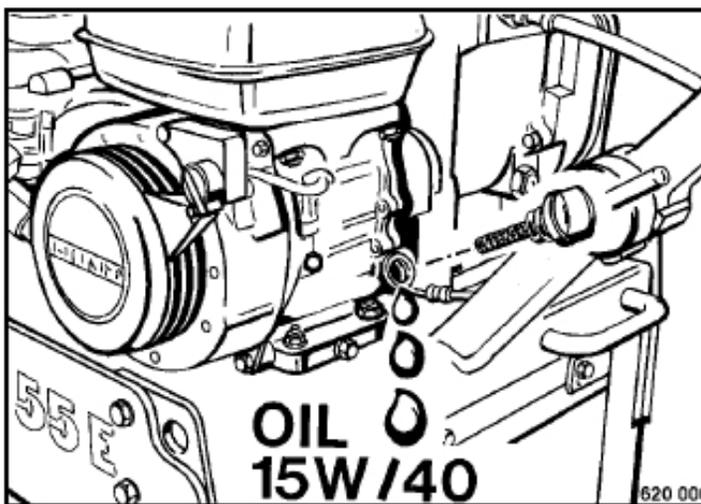

Fig. 28
- 1 Unscrew the oil filler plug 1 (Fig. 28).